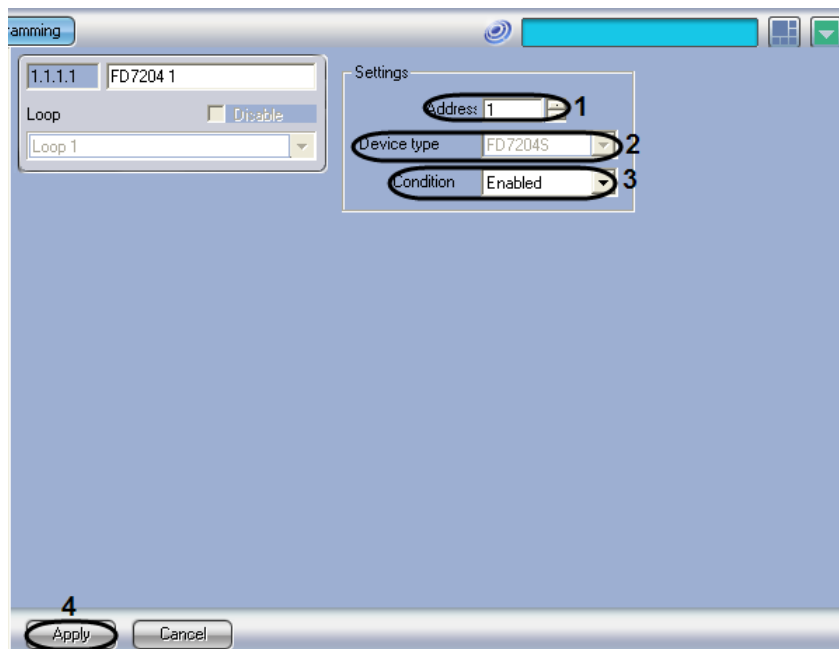

Fig. 3.6—14 Configuring the FD7204 addressable notification appliance
2. Enter the CAN network address of the FD7204 notification appliance into the “Address” field (see Fig. 3.6—14, 1).
Note. The “Device type” field automatically displays the type of the connected notification appliance (see Fig. 3.6—14, 2).
3. Select Enabled/Disabled in the “Condition” field (see Fig. 3.6—14, 3).